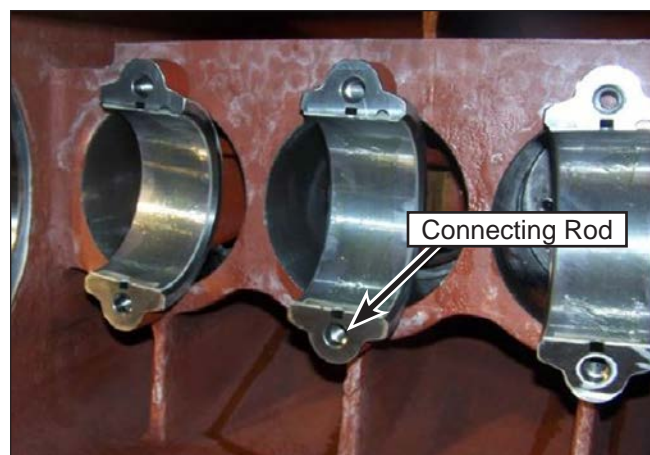

Figure 137: Connecting Rod Installation.
7. Place the three crosshead/connecting rod assemblies into place (Figure 137). Allow clearance for the crankshaft by pushing them towards the fluid end.